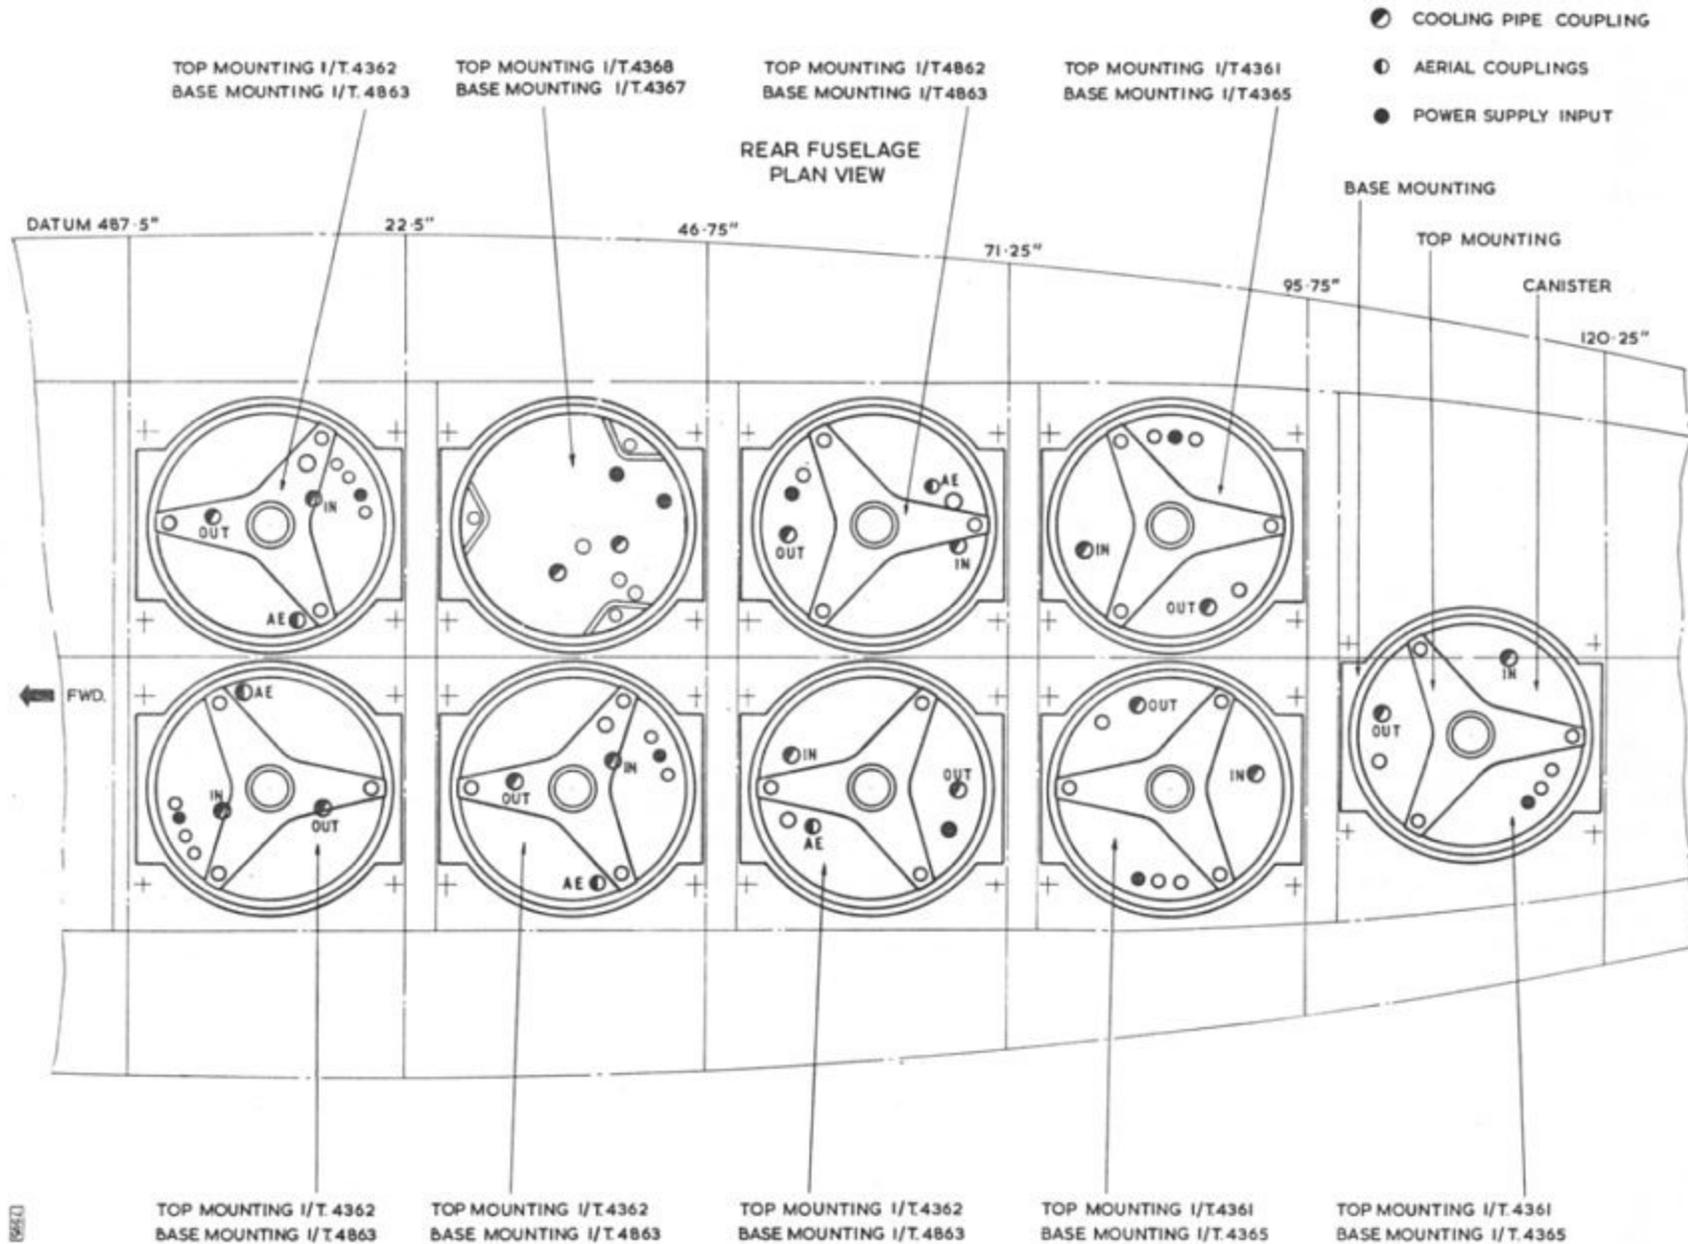

Fig.2 Location of canister mountings in rear fuselage
vertically on resilient mounting rings as shown in fig.2. Special handling techniques and equipment are necessary and details of these will be found in AP 101B-1902-1A.
9. Fig.2 shows the correct position of the mountings to the canisters and the mountings attached to the canisters in relation to the cables and cooling pipes. To ensure the correct location and positioning of the canisters, each position in the rear fuselage is identified with the type number of the appropriate canister. A leg on each canister base is painted with a red mark which corresponds to a similar mark on the aircraft structure.